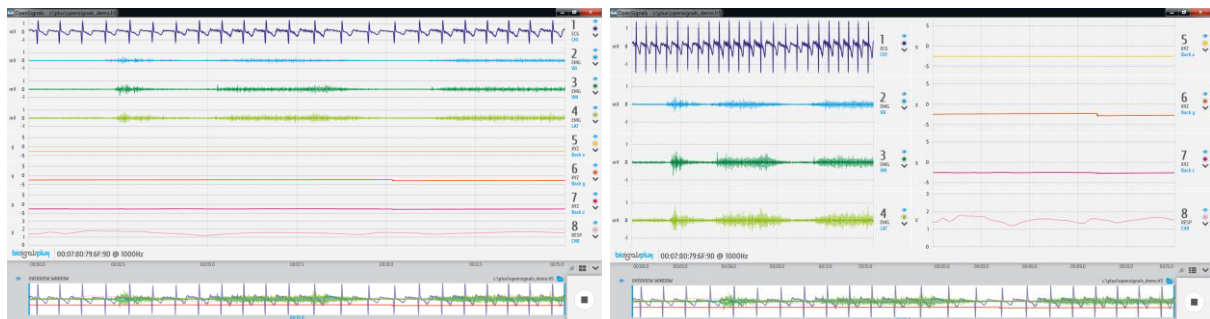

Figure 106: Channel visualization modes.
*OpenSignals (r)evolution* offers two different channel visualization modes (see Figure 106). The first (default) mode displays all the channels stacked vertically in order of the channel number (see Figure 106, left visualization mode). The second type splits the visualization mode vertically in half, displaying half of the channels on the left side of the visualization window and the other half on the right side (see Figure 106, right visualization mode). This mode can be useful when visualizing multiple channels at the same time (e.g. using an 8-channel biosignalsplex).